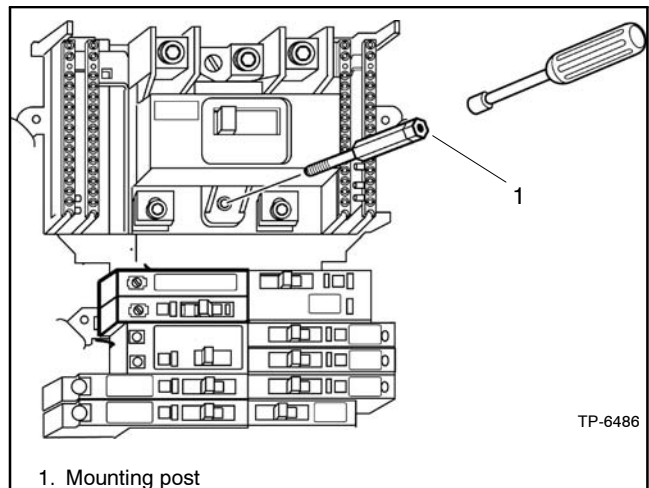

Figure 2-6 Installing Mounting Post and Generator CB
6. Install the transfer mechanism mounting post using a 5/16 in. nut driver. Torque the post to 3.4 Nm (30 in. lb.). Be careful not to damage the mounting post sleeve during installation. See Figure 2-6.
2. Install the transfer mechanism mounting post using a 5/16 in. nut driver. Torque the post to 3.4 Nm (30 in. lb.). Be careful not to damage the mounting post sleeve during installation. See Figure 2-6.